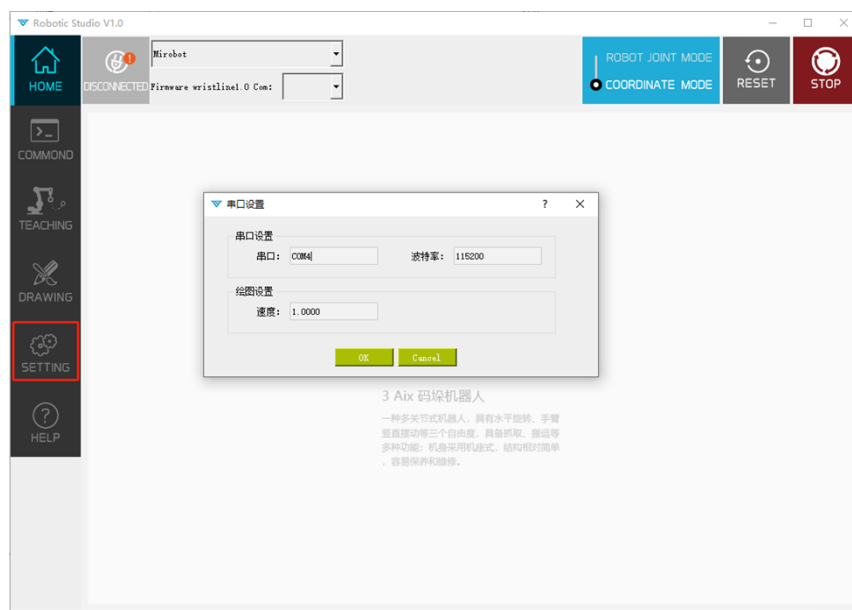

Figure 2.9 Setting tab of Mirobot Studio Software
- (3) Open the Mirobot Studio software. Click the Setting tab, as shown in Figure 2.9.